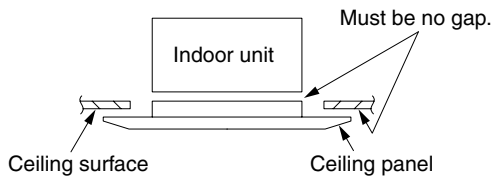

Fig. 3-78
- At this time, make sure that there is no gap between the indoor unit and the ceiling panel, or between the ceiling panel and the ceiling surface. (Fig. 3-78)